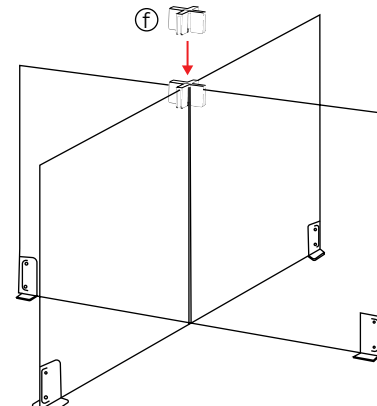

Figure 4
- Use the Cross Connector (f) to attach additional panels together as shown in Figure 4.